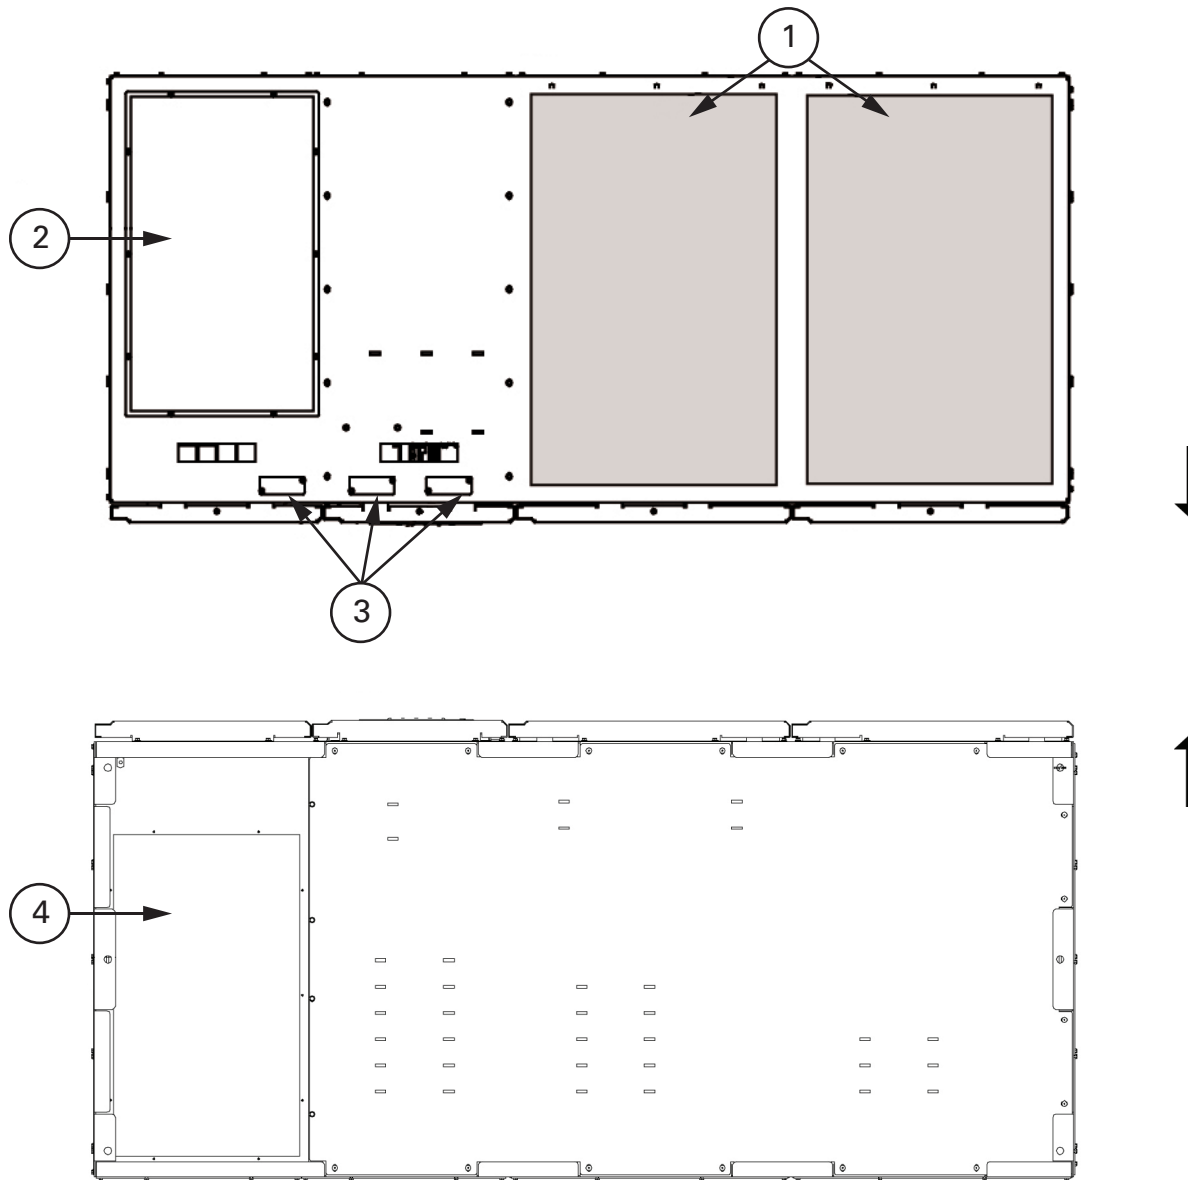

Figure 4-5. Conduit and wire entry locations
Remove the UPS cabinet top or bottom conduit landing plate to drill or punch conduit holes (see Figure 4-5).
1. Remove one top screw and two bottom screws securing the UPS left front panel (see Figure 4-5 on page 45). Lift the panel straight up to remove from the panel hanger bracket at the top of the cabinet.
2. Route the input and output cables through either the top or bottom of the cabinet to the UPS terminals. See Figure 4-5 through Figure 4-6 for wiring access information and common rectifier feed terminal locations or Figure 4-7 for separate rectifier feed terminal locations.
2. Route and connect the battery cables between the UPS and the battery cabinets in accordance with the instructions in the Eaton 9395P Integrated Battery Cabinet (Model IBC-L installation manual. See Figure 4-5 through Figure 4-6 for wiring access information and terminal locations.
5. Route and connect the battery cables between the UPS and the battery system. See Figure 4-5 through Figure 4-7 for wiring access information and terminal locations.
5. Remove the UPS cabinet top interface entry plates to drill or punch holes (see Figure 4-5 on page 45).